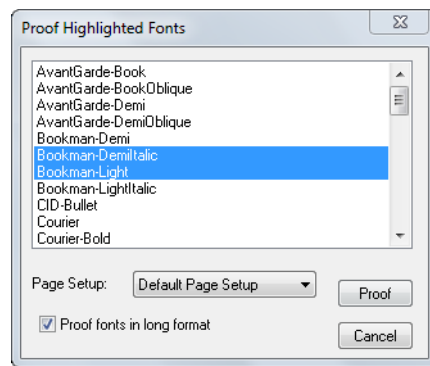

Figure 3.3 Proof Highlighted Fonts dialog box
1. From the **Fonts** menu, choose **Proof Fonts**. A window appears with a list of the available fonts, which the Navigator RIP can use with any of its possible output devices. (See Figure 3.3.)